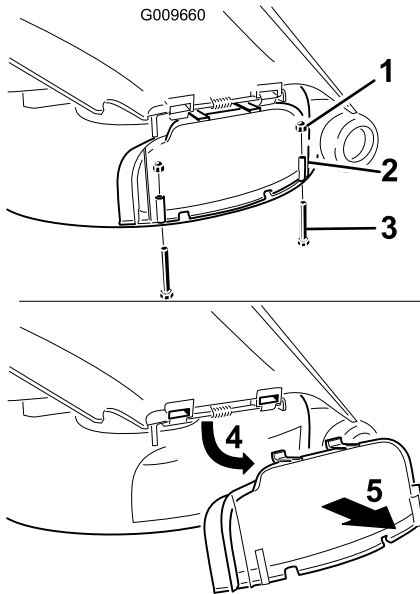

Figure 20
3. Remove the 2 bolts and nuts that secure the discharge cover to the mower (Figure 20).